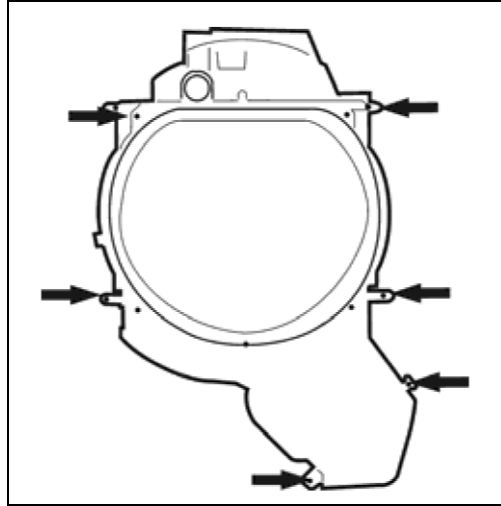

**Figure 5-9:** Heater Bank Removal
4. Unscrew the heater bank retainers (Figure 5-9, Items 1 and 2).
5. Disconnect the electrical connections (Figure 5-9, Item 3).